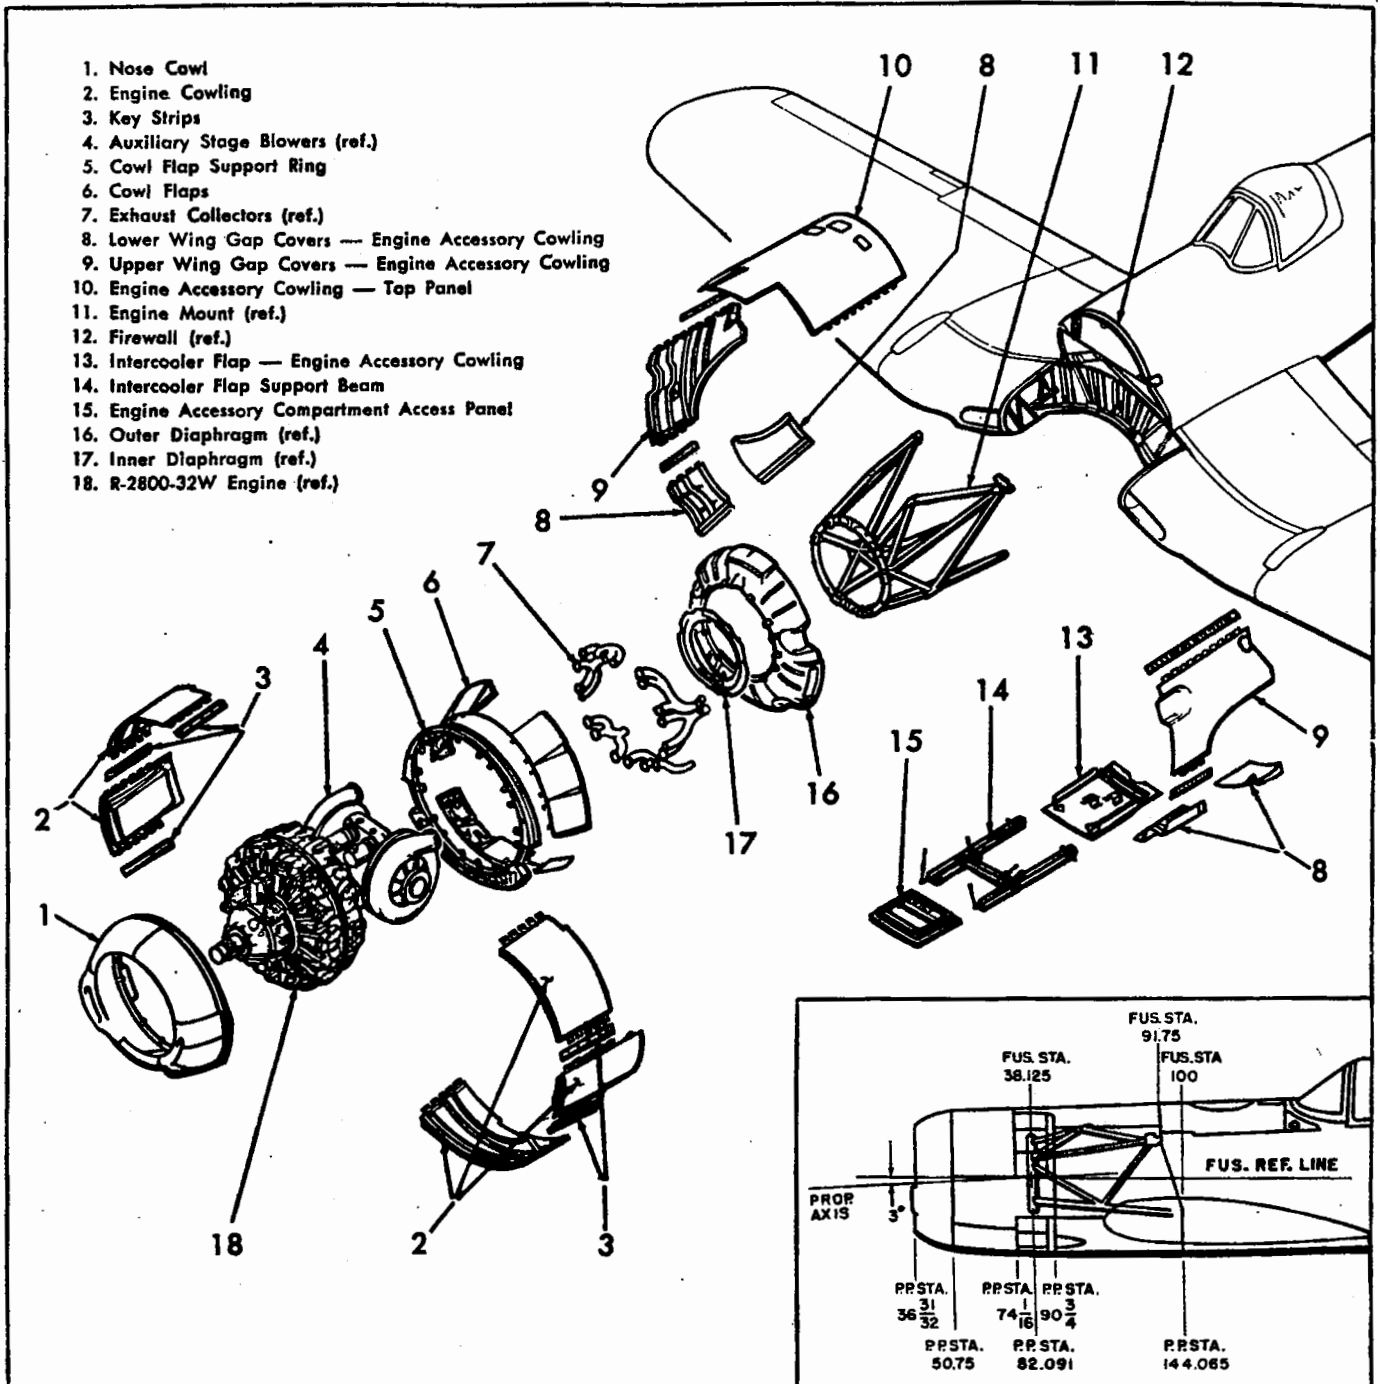
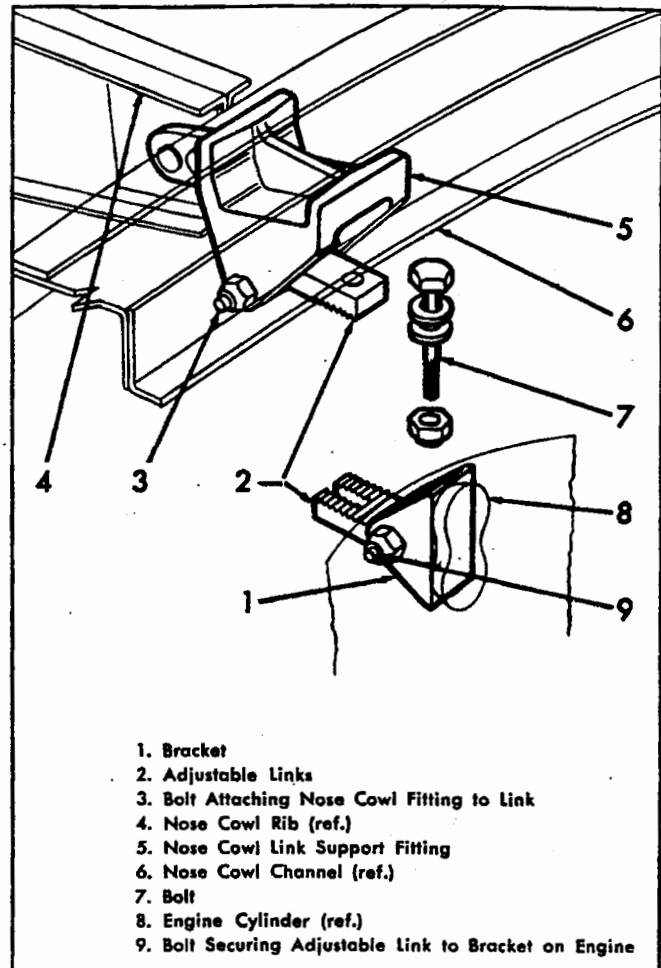

Figure 4-58. Engine Cowling and Cooling Flaps.
Figure 4-59. Nose Cowl Attachment.
4-437. DESCRIPTION. (See figure 4-58.) Engine cowling is provided for the purpose of directing cooling air to the engine cylinders and their baffles and to the engine compartment in order to maintain engine operating temperature limits. Air enters the engine through the nose cowl, passes over the engine cylinders between the baffles and is exhausted into the atmosphere through cowl flaps located at the rear of the engine cowling. The
4-440. (See figure 4-58.) Eleven movable flaps (6) hinged to the supporting ring (5) which is attached to the rear bank engine cylinder heads, are electrically actuated either automatically or manually. When the cowl flap operating switch, located on the left hand control panel inboard of the oil cooler switch, is placed in the "AUTOMATIC" position, the flaps automatically open or close to maintain engine cylinder head temperatures, below an operating limit of approximately 248 degrees C. When the control switch is manually held in the "OPEN" or "CLOSED" position, the flaps move accordingly. A cowl flap electric actuating motor, located on the upper right hand side of the engine mount, is energized through the switch located in the cockpit. Flexible drive shafts connecting the motor with eleven screwjacks are rotated by the motor and cause the screwjacks to extend or retract, and thus open or close the flaps. The automatic cowl flap control is reset to a lower operating temperature by the propeller governor control when the governor control is set to govern at or below 2300 rpm, the flaps opening at 232 degrees C. The automatic control responds to the hotter of two thermocouples located in engine cylinders numbers two and four. The thermocouples are connected to the controller located on the left hand side of the engine mount. The controller automatically energizes the cowl flap actuating motor to open or close the flaps according to the cylinder temperature as measured by the two thermocouples. When the airplane is on the ground a microswitch located on the left hand landing gear scissors is actuated, overriding the automatic control, causing the flaps to open. See paragraph 5-79 for further information on the electrical system.
4-442. (See figure 4-58.) The accessory compartment cowl consists of nine panels which extend from the diaphragm (16) aft to the firewall. With the exception of the Dzus fasteners in the keystrips used to secure the sides of the top panel (10) and the upper wing gap covers (9), Camloc fasteners are used throughout for attachment. The top panel contains filler access doors to the hydraulic and oil tanks, as well as engine accessory compartment cooling louvers. The right upper wing gap cover contains an access door to the water injection tanks filler neck. The lower wing gap covers are fabricated in two pieces to facilitate installation. The bottom portion of the accessory compartment cowling consists of a forward panel (15), containing an access door to the carburetor and secured to a beam assembly by Camlocs, and the intercooler flap (13), hinged at its forward end to fittings on the beam assembly and actuated by a hydraulic cylinder.
4-444. (See figure 4-58.) The intercooler flap (13) is provided to control the flow of cooling air through the intercoolers (the heat exchanging units that reduce the temperature of the engine air after it has left the auxiliary stage supercharger and before it enters the main stage). In opening or closing, the flap swings about hinges on its forward edge when actuated by a hydraulic cylinder attached to a bracket on the forward face of the main beam. The position of the flap is automatically controlled by a pressure switch which is sensitive to the pressure differential across the cooling air side of the intercooler. The pressure switch is electrically connected to a solenoid valve which causes the hydraulic cylinder to
It should be noted in referring to figure 4-58, that the thrust line of the engine-propeller unit is inclined downward 3° from the fuselage reference line. All stations leading from the outermost point of the propeller dome to the firewall are noted as power plant stations. All stations aft of that point are known as fuselage stations.
4-447. DESCRIPTION. (See figures 4-58 and 4-59. Parenthesized numbers refer to callouts on figure 4-59.)
4-449. REMOVING. (See figure 4-59.)
4-451. INSTALLING. (See figure 4-59.)
4-453. DESCRIPTION. (See figure 4-58.) The five engine cowl panels (2) which cover the power section of the engine are fabricated of alclad sheet, reinforced by stiffeners, and extend from the nose cowl (1) to the cowl flap support channel (5), with the exception of the two side panels which extend aft to the diaphragm. The panels are attached to each other by means of key strips (3) which fit into extrusions riveted to each panel, and are held in place by Dzus fasteners. The two top panels may be identified by markings designating right or left. The side panels extend from the nose cowl (1) aft to the diaphragm (16) being secured to the cowl flap support ring (5) in two places, forward of the diaphragm. The side panels carry air ducts which, when the panels are installed, mate with the air scoops in the nose cowl and the auxiliary stage entrance ducts extending forward through cutouts in the diaphragm. When installed, the panels seat on flanges of the air scoop of the nose cowl and of the auxiliary stage entrance ducts. Synthetic seals secured to the air ducts act to prevent leakage.